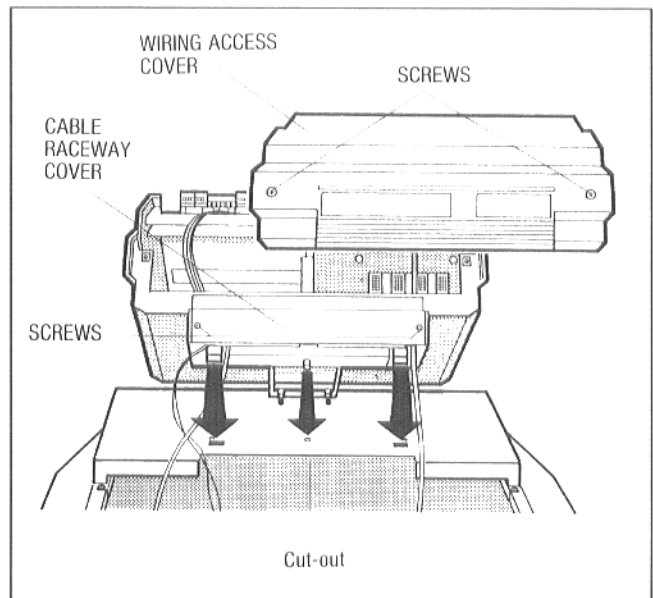

Fig. 2: Opening and positioning the control panel
- Remove the 2 screws from the back of the Ecomatic (Fig. 2) and remove the wiring access cover.
- Remove the 2 screws from the cable raceway cover (Fig. 2) and remove cover.